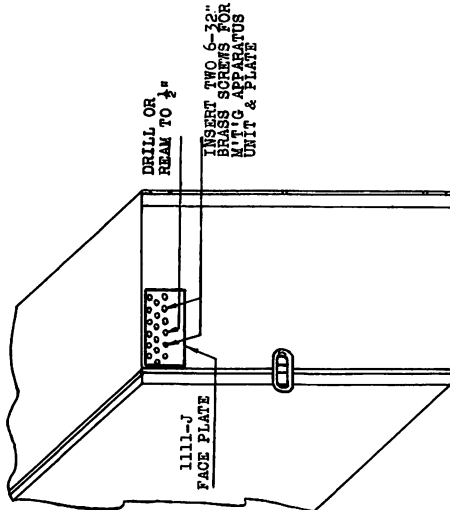

FIG. 3
- 5.42 Procedure - Remove Monitoring Unit from Kondu fitting (not used). Facing right end of amplifier in upper left corner (drill or ream out one ventilating hole (lowest row, 3rd hole from front) as shown on Fig. 3. Attach apparatus unit (inside) and face plate (outside) by means of the #6-32 Brass Screws supplied with unit. Solder one end of the #16 twisted pair to terminals "MON" of the amplifier. Lead the pair to the unit and connect as shown on ASL-2276 (E.B. "Monitoring Unit, ASO-3276" F.R. 4.01). It will facilitate matters to remove unit while making these connections. No coding change is required.